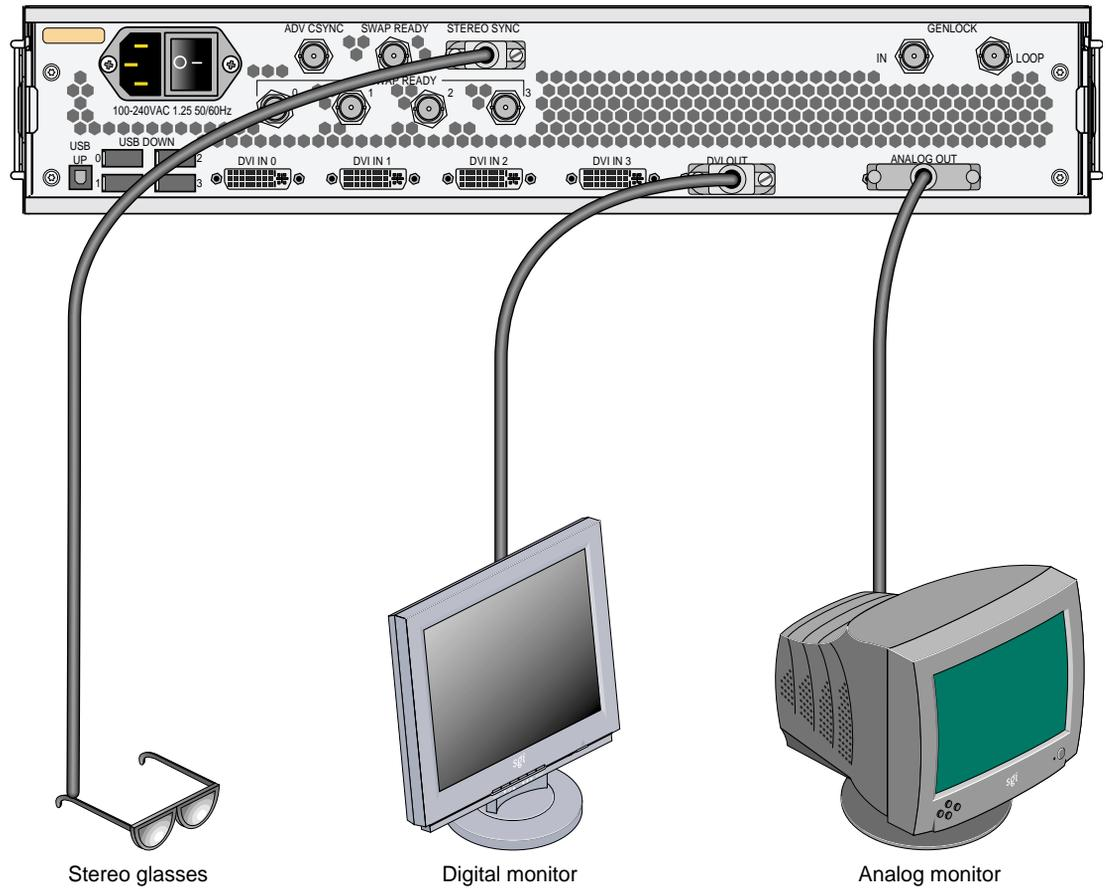

Figure 3-14 Connecting to Digital and Analog Monitors
8. As is applicable to your cabling installation, connect the following items to the compositor (as shown in Figure 3-14):
11. Press the compositor power switch to the ON (I) position.